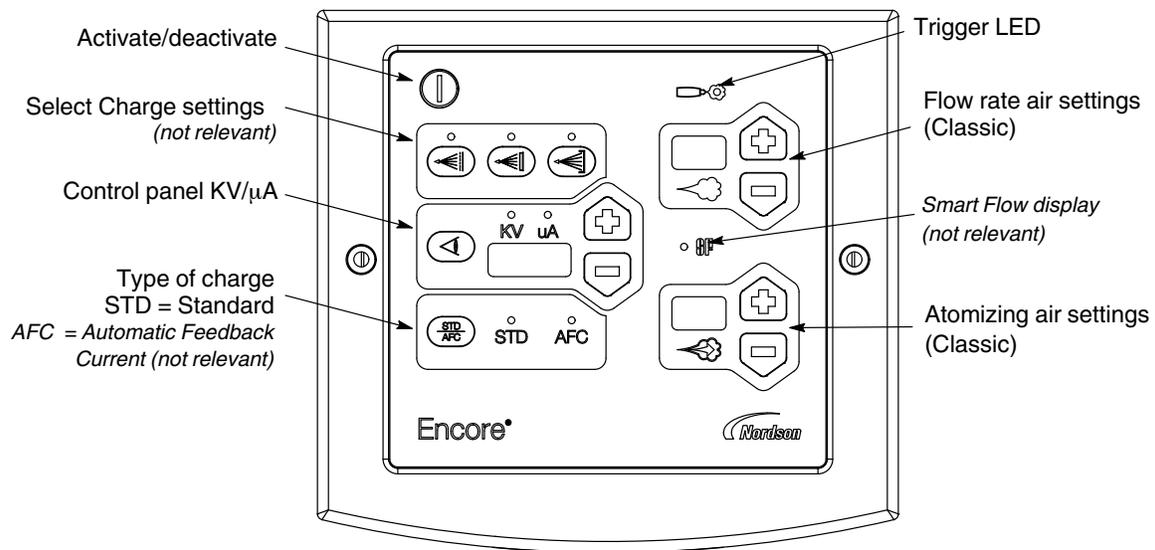

Fig. 2-5
1. If the system has been switched off with the main switch, press the plus and minus keys in the field kV/ μ A (Fig. 2-5) of controller #2 at the same time AND switch on the main switch.